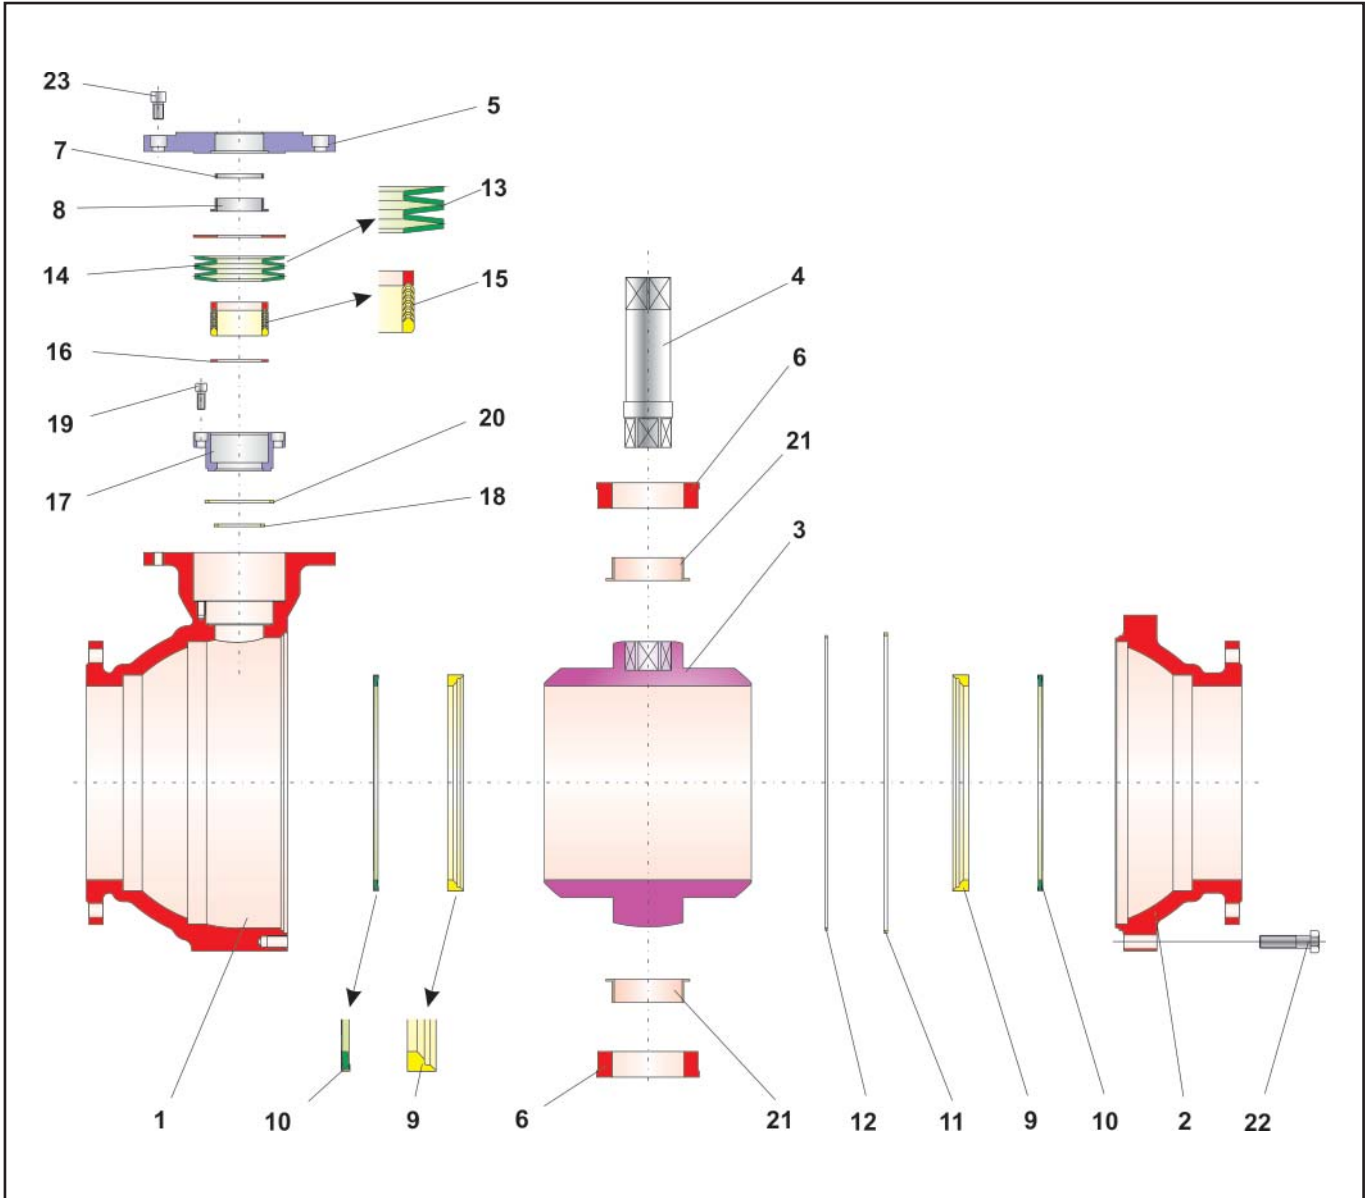

Fig. 3 – Detail drawing of Series 26s Ball Valve
Note: The position and arrangement of the individual parts shown in the detail drawing (Fig. 3) are to be observed during assembly.
Insert the encapsulated disc springs into the appropriate chambers in the main body (1) and body (2) such that the washers rest inside the chamber near the bore. For details on the mounting position of the disc springs refer to the exploded drawing (Fig. 3).
Push the ring (18) onto the shaft. Insert the seal (20) into the bushing (17). Insert the metal washer (16) and the V-ring packing (15) into the bushing (17). For details on the arrangement of the V-rings refer to the exploded drawing (Fig. 3).
Fasten the bushing with the screws (19). Stack the Belleville spring washers (13) onto the metal washer of the V-ring packing (15). For details on the arrangement of the spring washers refer to the exploded drawing (Fig. 3).